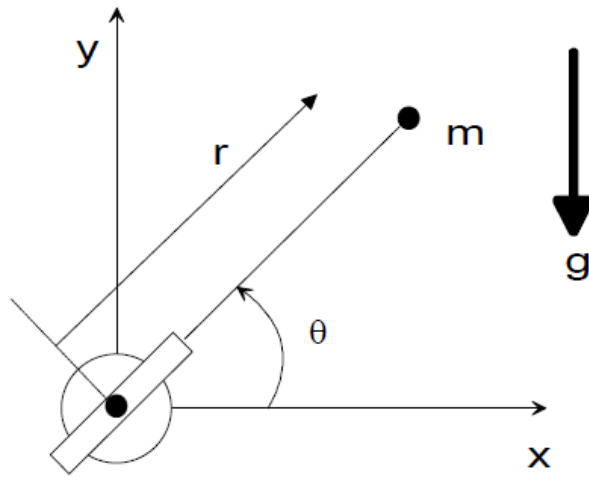

Figure 6
6. Figure 6 shows a schematic diagram of the 2-DOF robot. The first joint is a rotational joint whose axis of rotation is along the z-axis and its joint coordinate is ϑ . The second joint is a translational joint whose axis is along the second link's longitudinal axis